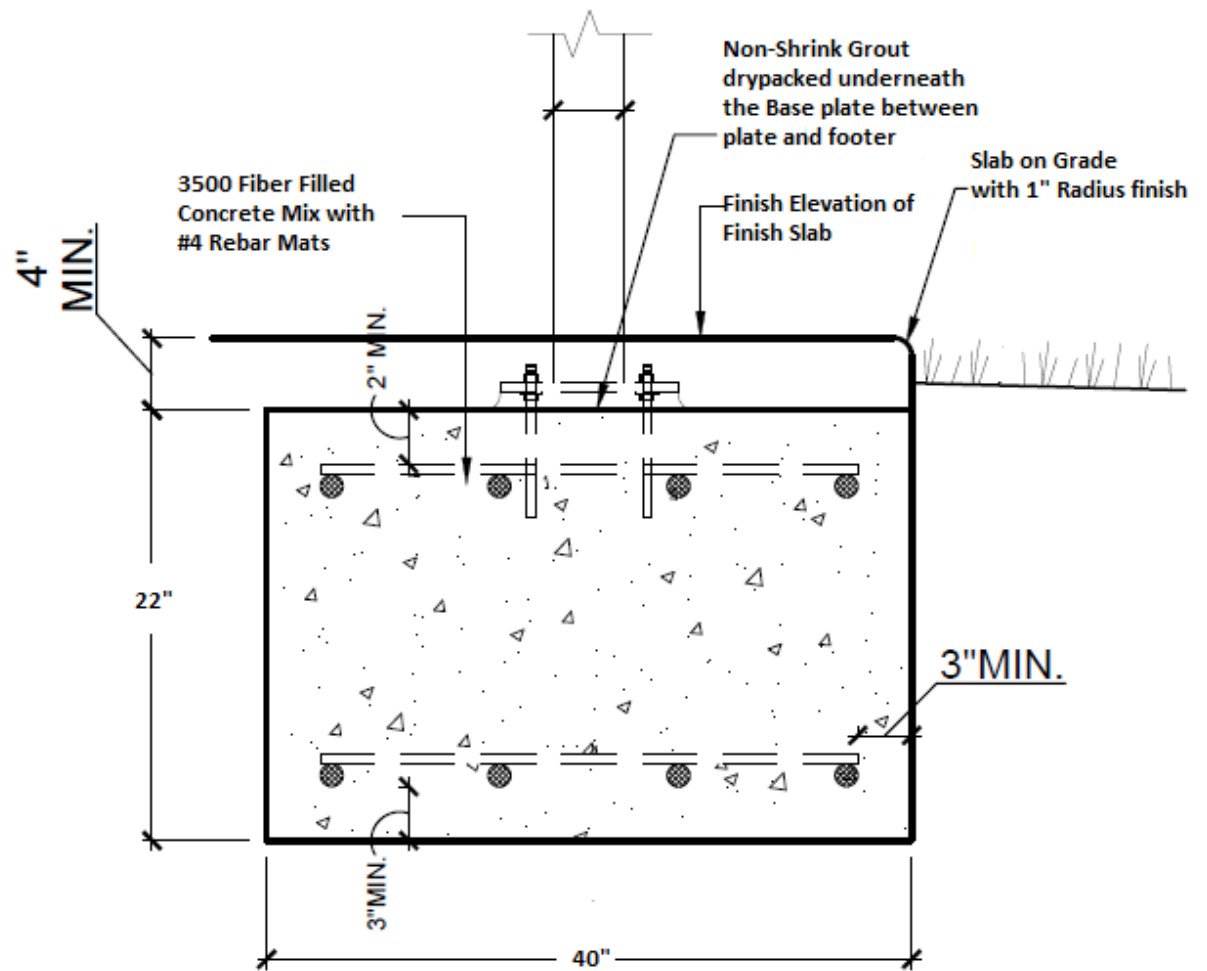

Figure 4: Thickened Edge Footing F3.
- e. A black PVC coated chain link fencing corner post shall be submerged into the chain link corner post footing F4 by 8" and extend 4'6" upward from the top elevation of the finish slab concrete. See figures 4 & 7.
- l. The finish slab shall be 9'10" wide X 21'10" long, being poured over the corner post and center post footings. The thickened edge footing for the finish slab shall be 1' deep X 8" wide between the corner post and center post footings. See F3 within figure 4 & 6.